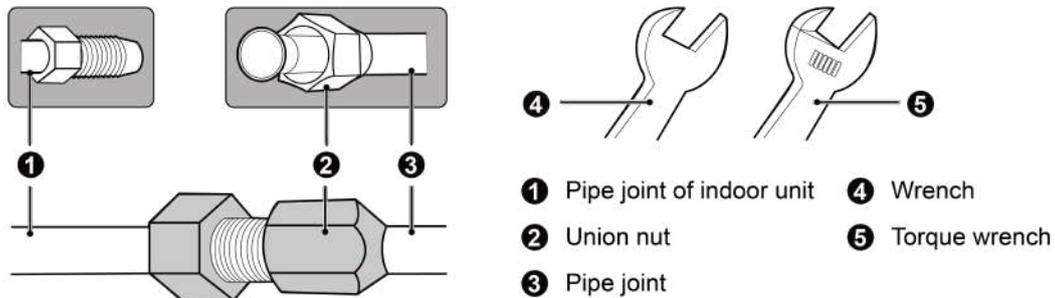

Fig.4.2.1
- (1) Aim the flaring port of copper pipe at the center of screwed joint and then tighten the flaring nut with hand as shown in Fig.4.2.1
- (2) Tighten the flaring nut with torque wrench.